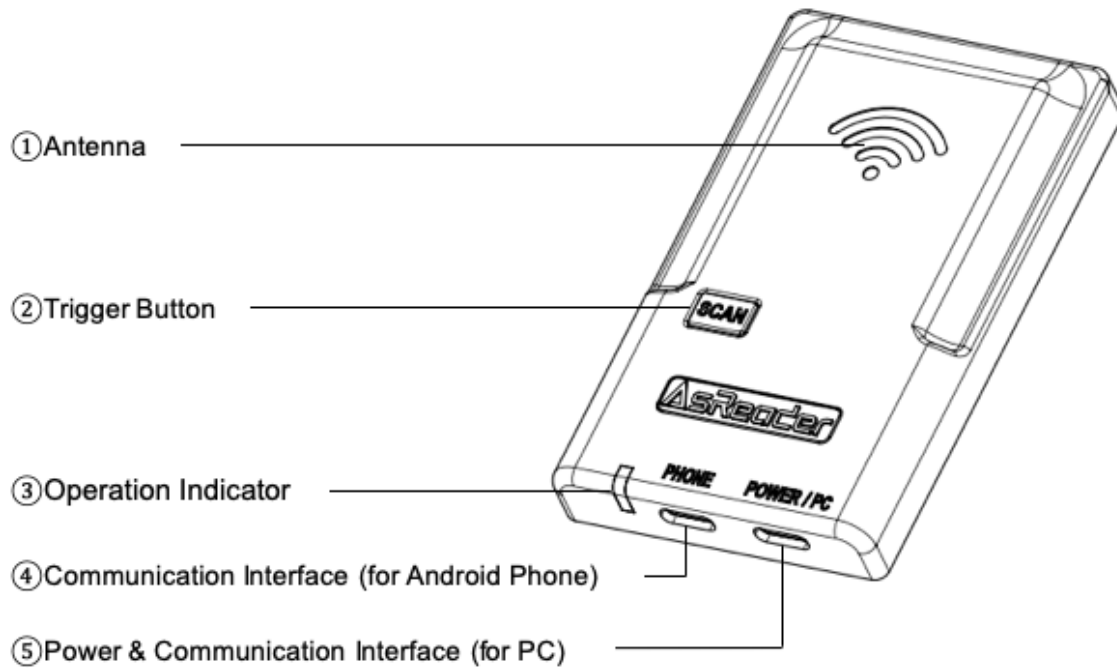

FIG. 1-3-1 Appearance (Front)
Use the USB Type-C data cable to connect the AsReader to the power adapter via the Power & Communication Interface (see FIG. 1-3-1\(5\)). The Operation Indicator flashes slowly when power on is successful (see FIG. 1-3-1\(3\)). And there will be two buzzing prompts.
Put the RFID tags close to the Antenna of the AsReader (see FIG. 1-3-1①). Press the Trigger Button (see FIG. 1-3-1②), and the blue light flashes quickly. The data will be entered at the cursor on the screen of the Android device or PC. Press the Trigger Button again to stop reading.
3. Connect Android phone and the AsReader with USB Type-C to USB Type-C data cable via the Communication Interface (see FIG. 1-3-1④), and it will connect automatically. The Operation Indicator keeps ON when the connection is successful.